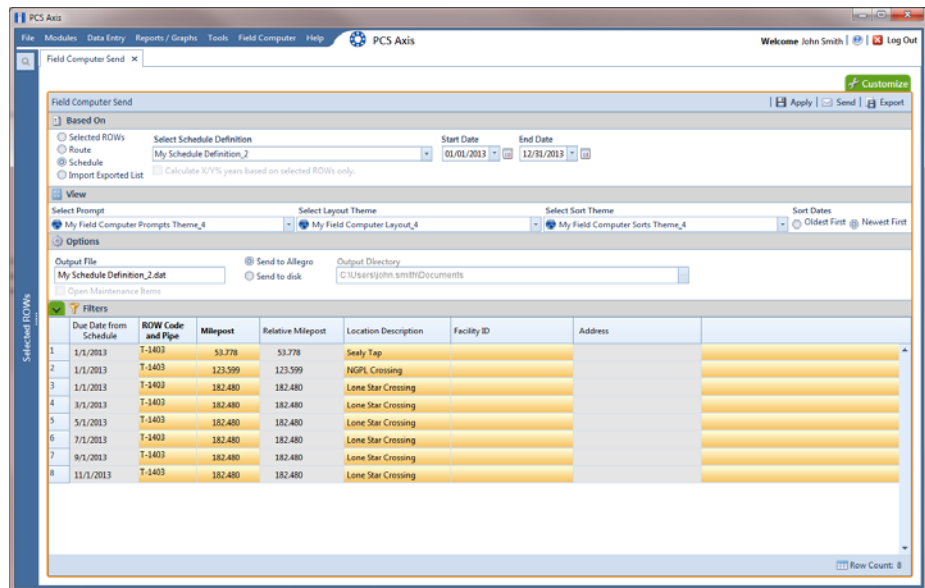

Figure 13-25. Field Computer Send Based on Schedule
- c To set a schedule date range using dynamic start and end dates, follow these steps (Figure 13-25, page 578):